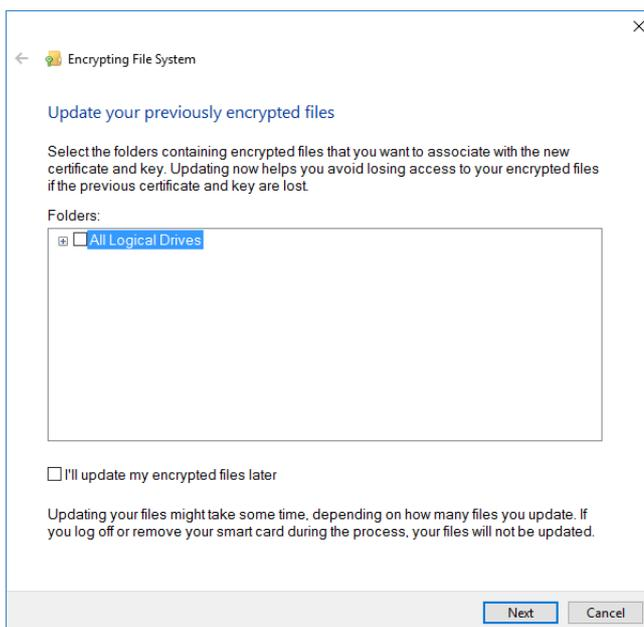

Figure 2-28. Selecting encryption settings
7. Do not change your current encryption settings, see Figure 2-28, and click **Next**.